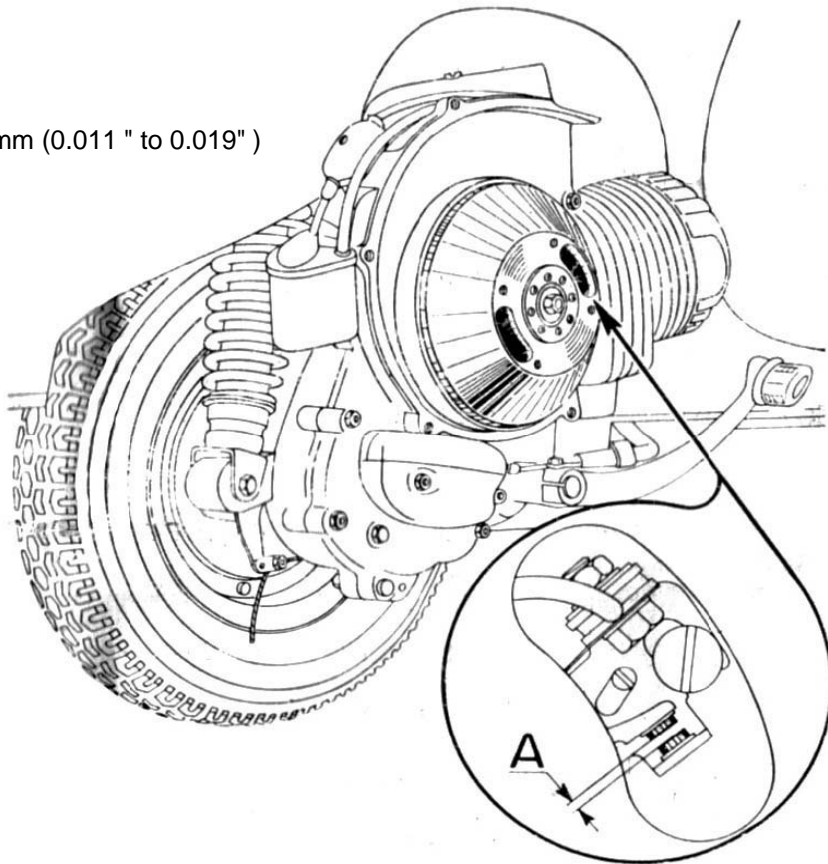

Fig. 20 - Breaker points.
- Clean the breaker points. Check the gap and adjusted if needed. The gap should be 0.3 to 0.5 mm (0.011 " to 0.019" ), and the points should begin to open when the current in the primary ignition circuit has reached its peak value. (See Fig. 20.)